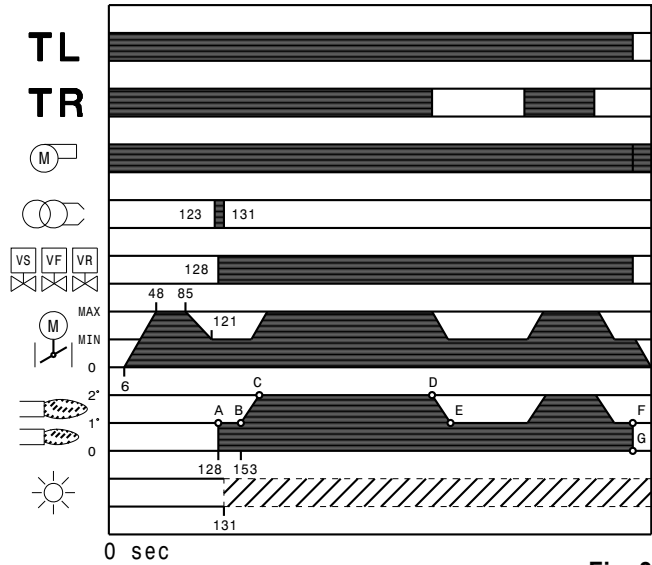

Fig. 34
6.5.2 Steady state operation (Fig. 34)